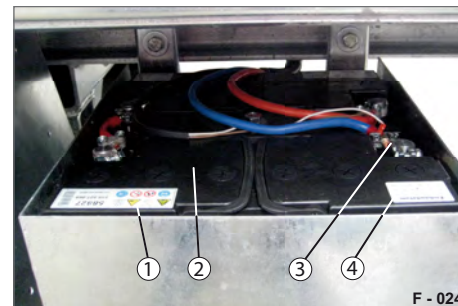

Fig. 42 Battery box, open
- ▶ Check the power of the batteries on a regular basis (Fig. 42/2). Note the date of manufacture (Fig. 42/4) of the batteries.